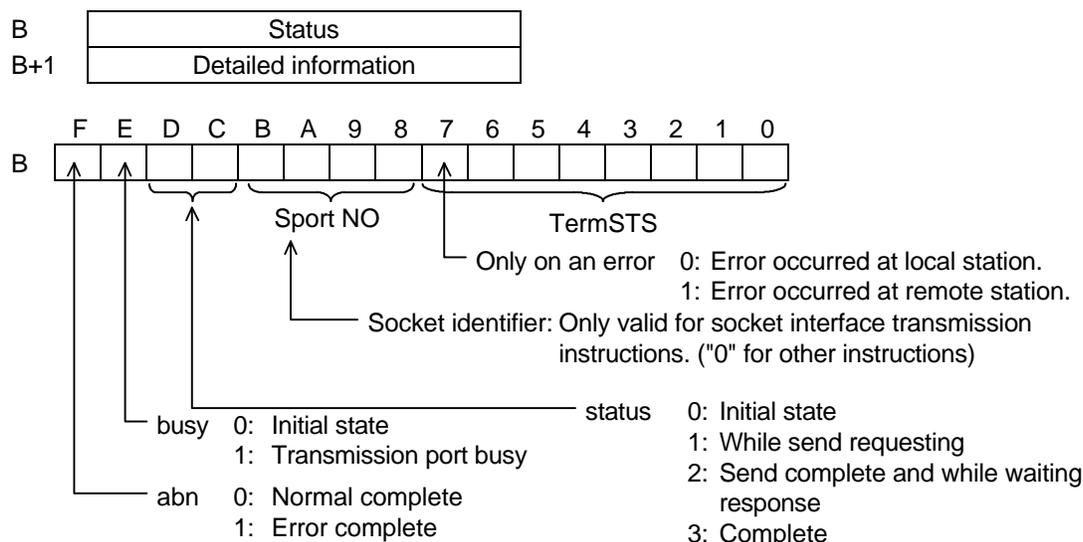

Figure 4.3 Status Structure
The status during the execution of a SEND or RECV instruction and after that instruction terminates is stored in the register shown at B. When TermSTS = 0BH, the detailed information (Ethernet Port error information) will be loaded into the registers indicated at location B + 1. Figure 4.3 shows the structure of the status information. Tables 4.3 and 4.4 list the TermSTS values, and table 4.5 and 4.6 lists the contents of the detailed information.
c. Status (See figure 4.3 for details on bits C, D, E and F.)